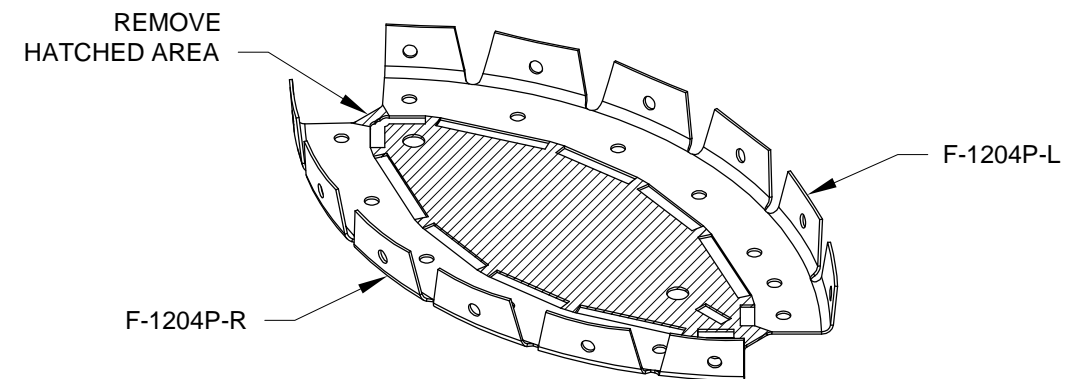

FIGURE 3: SEPARATING SKIN ATTACH FLANGES
Step 5: Cut apart the F-1204P Skin Attach Flange to make F-1204P-L and F-1204P-R Skin Attach Flanges as shown in Figure 3.